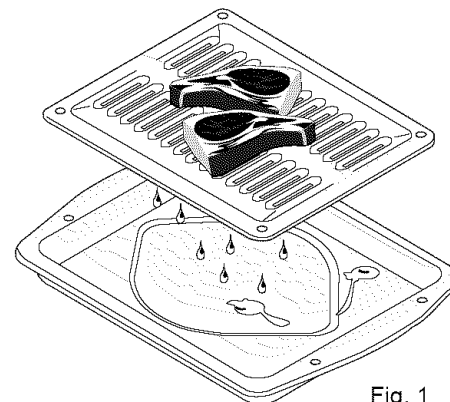

Fig. 1
5. Place the insert on the broil pan, then place the food on the insert (See Fig. 1). **DO NOT** use the broil pan without the insert or cover the insert with **aluminum foil**. The exposed fat could ignite.
- In the **upright position** to allow low profile food items to be placed both under and on top of the rack (for example, rolls or biscuits on top of the rack and a casserole dish under - See Fig. 1).